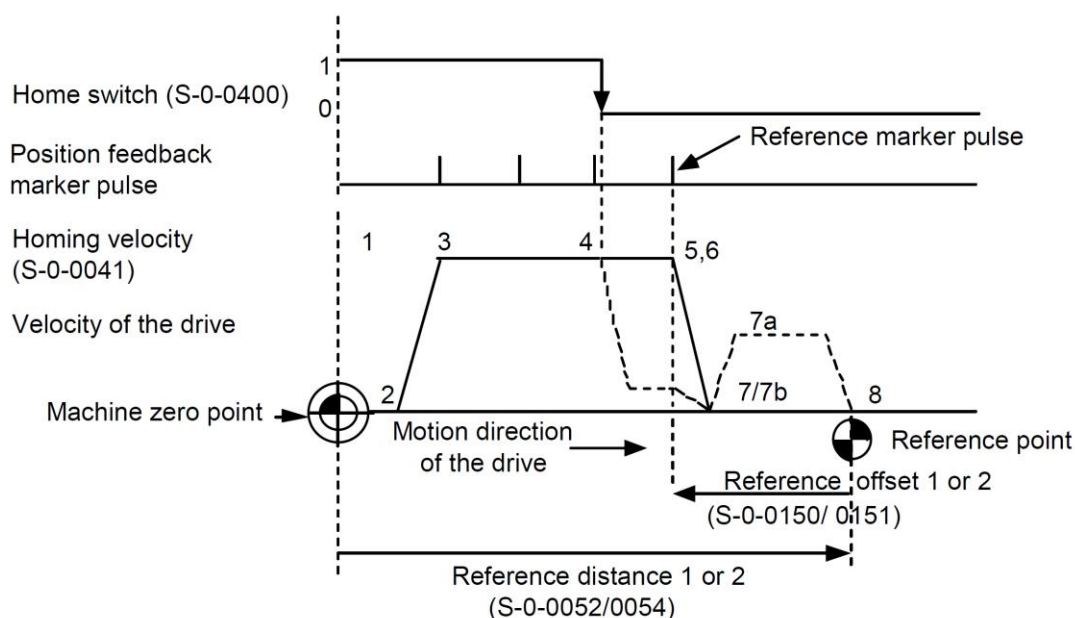

Figure 6-15 - Drive Controlled Homing
4. Once the final reference point has been evaluated, the position at this point is set using the *Reference Distance* and *Reference Offset* parameters as shown in Figure 6-15.